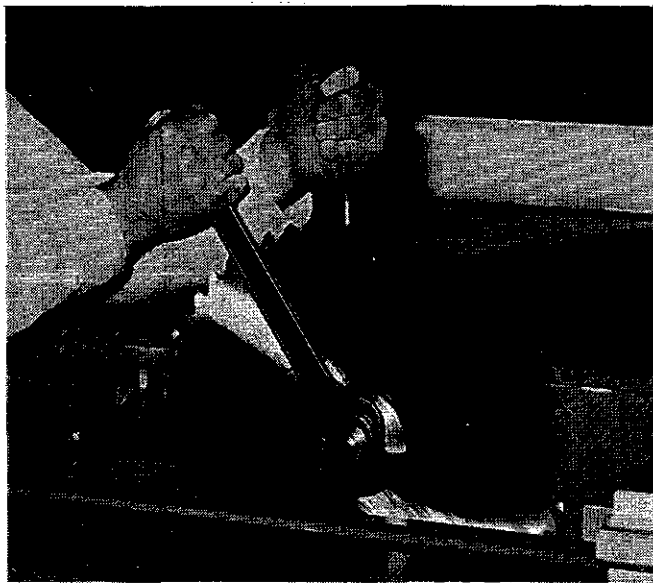

FIG. 25.
7. Lock saw securely in position with arbor nut (left hand thread) as shown in FIG.25.